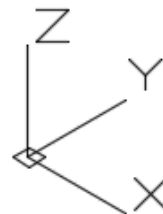

Figure 6-1
- 5 In Figure 6-1, what does the small square indicate? Choose the **BEST** answer.